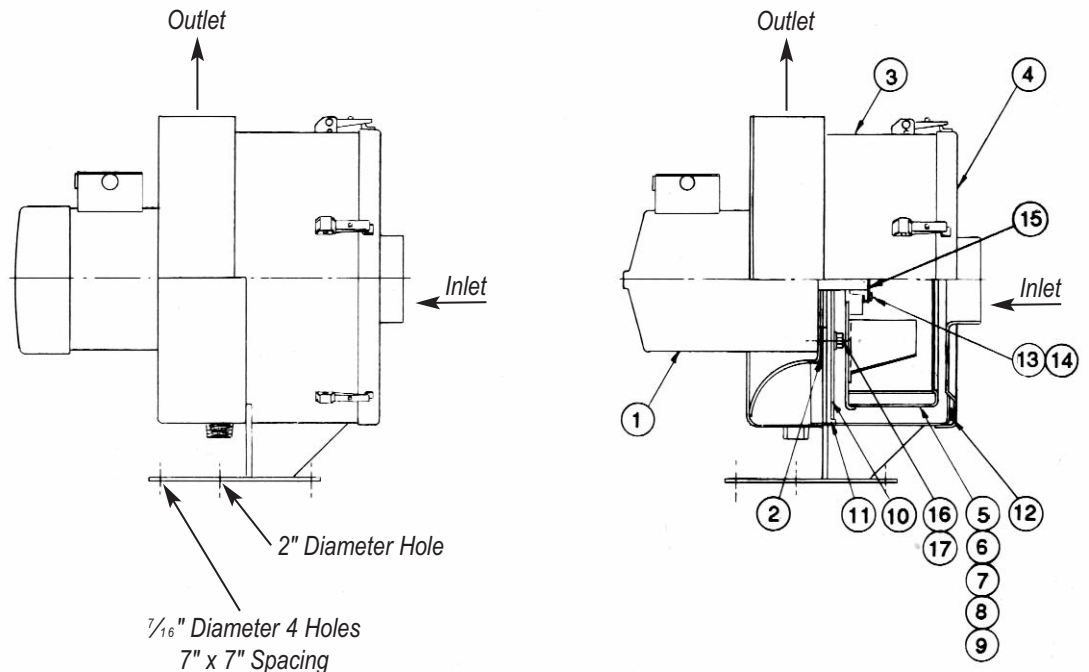

Figure 7. Sizes AS-100 through AS-300
6.4 Cleaning Procedure - Sizes AS-100 and Larger (Figures 7,8)
6.6 Motor Replacement - Sizes AS-100 through AS-1000 (Figures 7,8)